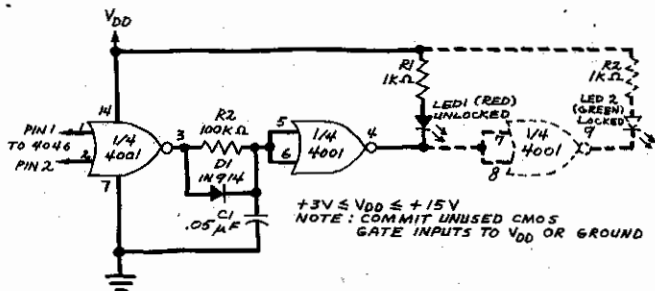

Fig. 1. A simple NOR-gate lock-detection circuit using a 4046 micropower PLL.
**PLL Lock Indicator.** It's often difficult to determine whether or not a PLL is out of lock, particularly if a scope is not available. RCA application note ICAN-6101 recommends a simple NOR gate lock-detection circuit, a slightly modified version of which is shown in Fig. 1.
The lock indicator shown in Fig. 1 is a particularly handy addition to this circuit since it provides immediate warning when the circuit is out of range. This prevents erroneous frequency measurements.